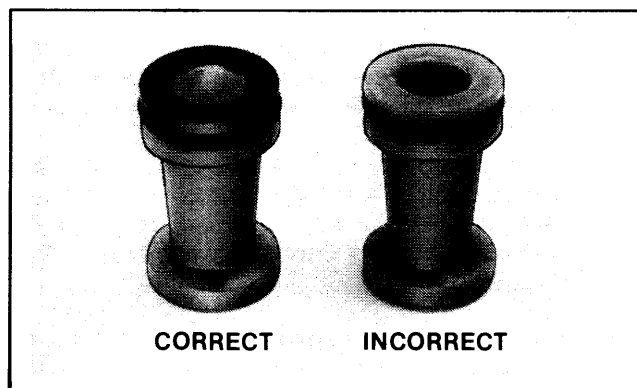

Figure 2. Master Cylinder Pistons
3. Look inside at the master cylinder piston. The end should be totally black or blue (see Figure 2). If it is not, the master cylinder must be returned for credit with a properly completed Warranty Claim Form.